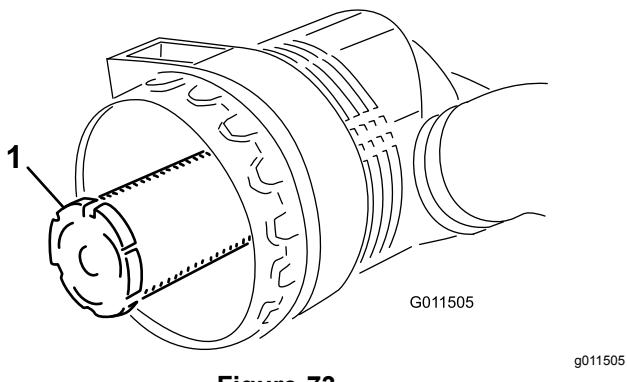

Figure 73
body. Do not use a damaged element. Do not remove the safety filter (Figure 73).
**Important:** Never attempt to clean the safety filter (Figure 73). Replace the safety filter with a new one after every three primary filter services.